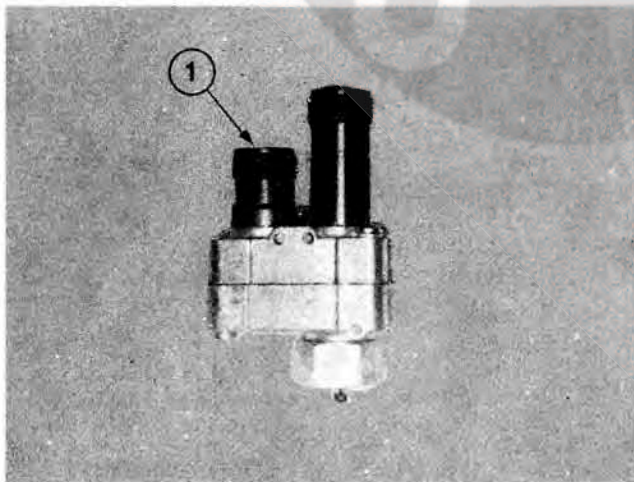

Fig. 1-20 (ST-1224). ST-1224 Adapter
**Note:** The overspeed stop switch cable must be connected to the short adapter connection (1, Fig. 1-20).